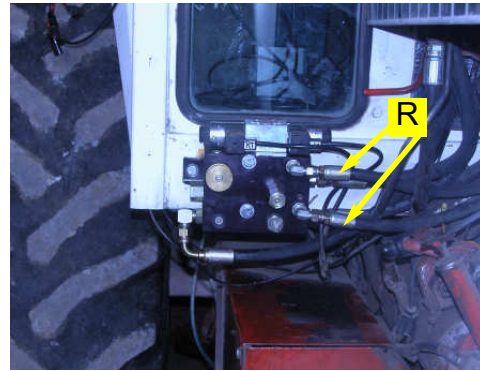

Figure 7a. Steering hoses connected at Automated Steering Block.
a. Route the provided steering lines (**R**) up to the **A** and **B** ports of the Automated Steering Block from the run tees on the counter-balance valve block. (Figure 7a.)